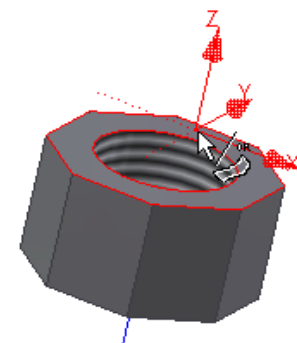

Figure Step 13A
Step 13 Ensuring that Direction is enabled, zoom in and move the cursor on the top of the nut. When the direction icon is displayed as shown in the figure, click the left mouse button. (Figure Step 13A and 13B)